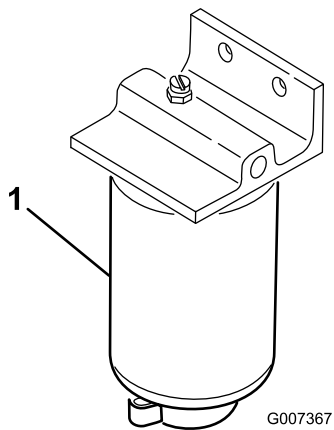

Figure 39
1. Place a clean container under the fuel filter (Figure 39).